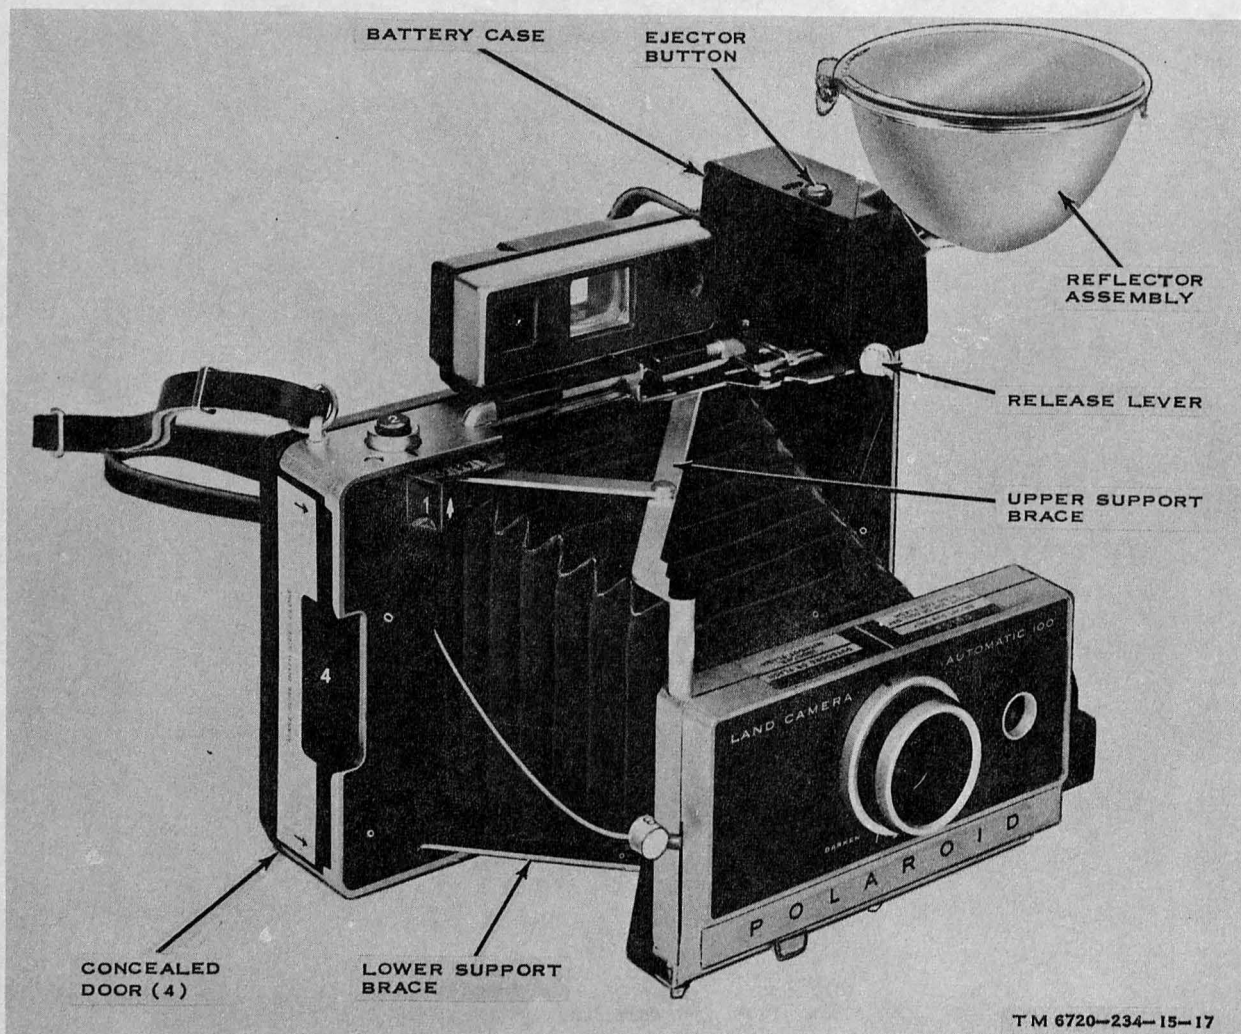

Figure 3-7. Camera with flashgun mounted and reflector assembly positioned for bounce flash.
e. When bounce flash photography is desired, rotate the reflector assembly so that it is positioned on the flashgun as shown in figure 3-7.